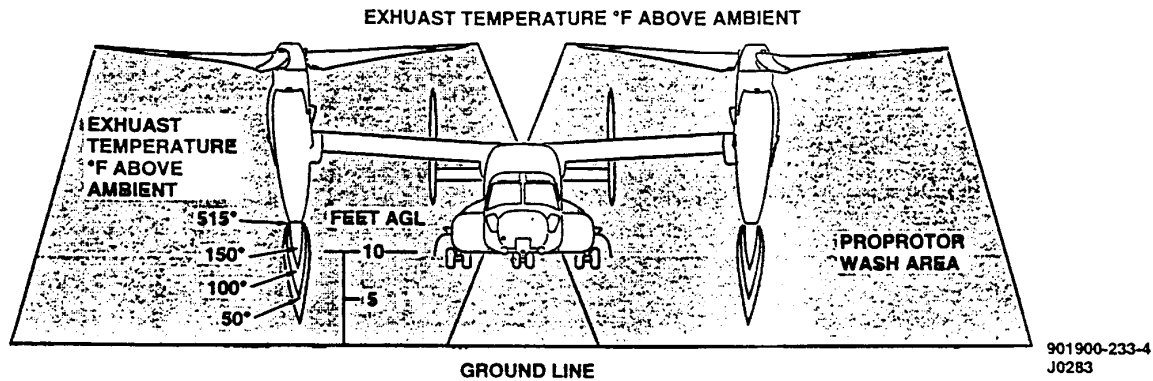

Figure 10-4. MV-22 Engine Exhaust Temperatures
- Due to the unique flight characteristics of the MV-22, Marines must be aware of the extreme hazard of the engine exhaust from the nacels. The exhaust is over 550 F. (See fig. 10-4)